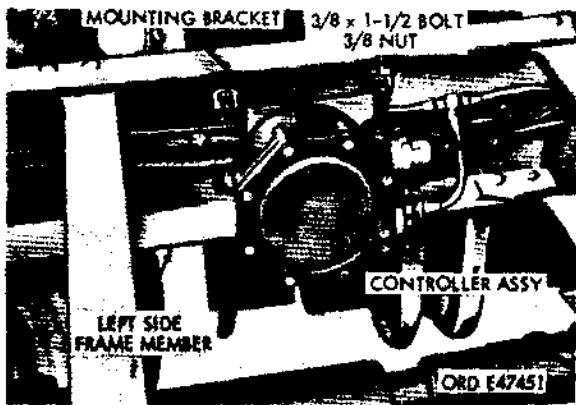
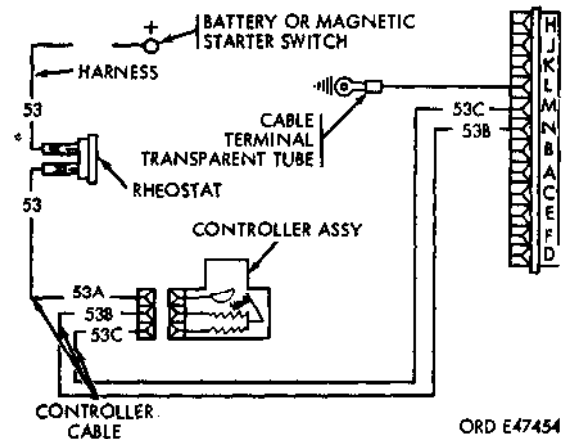

Figure 662. Controller installed
Figure 665. Wiring diagram for one-receptacle trucks
- (1) The controller assembly is waterproof, 24-volt capacity, and air operated. It transmits an electric current to M and N terminals (figs. 665 and 666) of the truck trailer receptacle. The controller is mounted inside of the left side frame member just rear of the cab (fig. 662).
d. Install controller mounting bracket (Q) on frame member (fig. 662), using four 3/8-inch
- a. Cut off two shortest leads marked 53 (fig. 665) from rheostat-to-controller cable (E, fig. 660) at molded splice and tape ends to make waterproof. Connect cable to controller.
- b. Disassemble trailer receptacle located at rear of truck. Remove terminal pins (M and N, fig. 665) and solder to two remaining short leads of controller cable (E). Install leads in receptacle, making sure controller
terminals (B and C, fig. 665) are connected to receptacle terminals N and M, respectively (fig. 665).
- c. Remove trailer receptacle terminal pin (L, fig. 665) and solder to required length of lead cut from cable (G). Install lead in receptacle and connect free end to ground location of trailer receptacle terminal D, using transparent tubs 7056633 and terminal 7056706 (fig. 665).
- e. Run long lead of cable (E) along inside of frame member, follow path of existing harness and attach to harness with existing clips or tape. Pass cable through existing harness grommet in firewall and connect to rheostat.
- f. Connect rheostat harness (D) to rheostat. Pass free end through existing harness grommet in firewall, follow path of existing harness, attach to harness with existing clips or bind with tape, and connect to positive battery terminal.